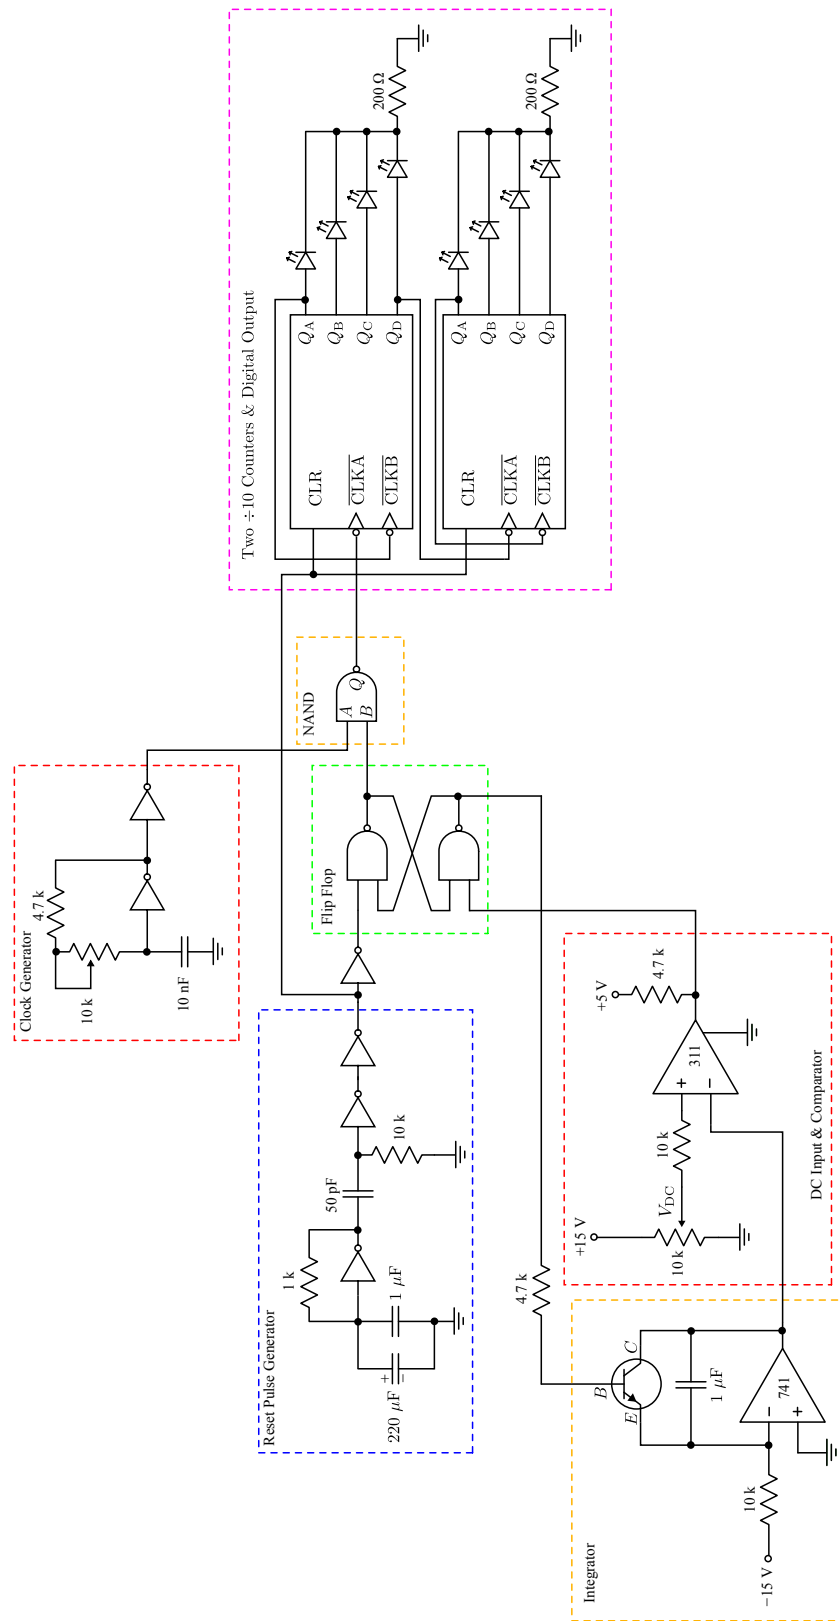

Figure 7: The complete ADC circuit with the various sub-circuits highlighted.
**Leave this combination of circuits assembled on your breadboard.** They will be incorporated into your final ADC circuit. See the sub-circuit labeled “Reset Pulse Generator” and enclosed by the blue box in Fig. 7. At this point, you should use a piece of masking tape to label your breadboard with your name and your partner's name.
**Leave this circuit assembled on your breadboard.** It will be incorporated into your final ADC circuit. See the sub-circuit labeled “Clock Generator” and enclosed by the red box in Fig. 7.
The  $\div 10$  counters are equipped with a “reset” function. In normal operation, the reset inputs are grounded. Taking the reset input from LO→HI→LO resets the counters such that all outputs read LO. **Keep this circuit assembled on your circuit board.** See the sub-circuit labeled “Two  $\div 10$  Counters & Digital Output” and enclosed by the purple box in Fig. 7
We now develop the required analog-to-time conversion. As shown in Fig. 7, the circuit consists of two parts:
Figure 6: A ramp generator (integrator circuit) and comparator are used to accomplish the required analog-to-time conversion. In Fig. 7, the ramp generator is labeled “Integrator” and is enclosed in a yellow box and the comparator is labeled “DC Input & Comparator” and is enclosed in a red box.
Assemble the complete ADC circuit shown in Fig. 7. You will need to insert two more inverters, one NAND gate and assemble a flip-flop from two additional NAND gates. Note that the additional inverters can come from the same IC you’re already using. All three NANDs can also be supplied from a single IC. Connect your various sub-circuits together according to Fig. 7. Carefully recheck that all required interconnections have been incorporated and then test your analog-to-digital conversion!